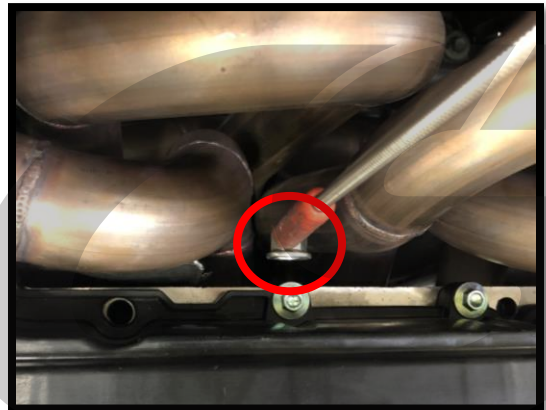

Figure 5d
- c) Start threading on an OEM 14mm nut on stud #1. Use a magnet to position this nut on the stud as shown in **Figure 5d**.